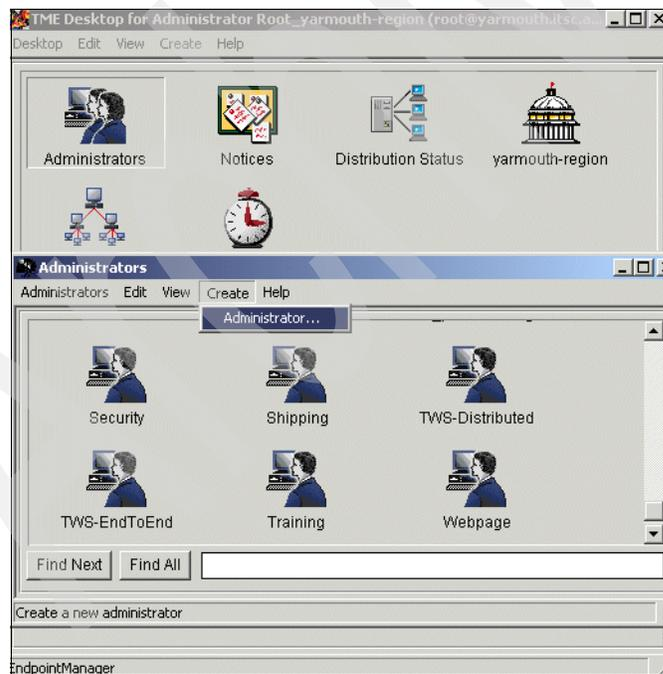

Figure 16-5 Create Administrator window
1. Double-click the **Administrators** icon and select **Create** → **Administrator**, as shown in Figure 16-5.